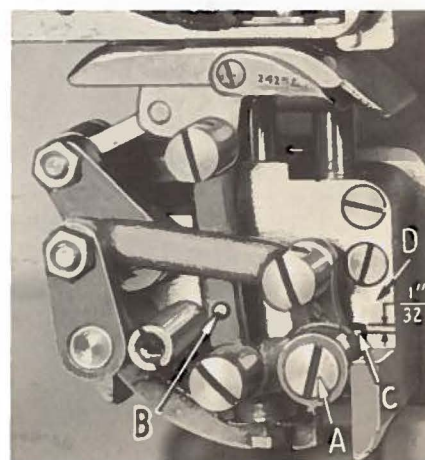

Fig. 10
To make this adjustment, loosen the screw (A, Fig. 10) and, with the right hand, hold the feed plate against the presser foot. Then, by holding feed link (B) with the left hand, push down feed point until there is $\frac{1}{32}$ inch clearance between the block (C) and the plunger bearing block (D). Then, retighten screw (A).
Turn handwheel in operating direction until the feed point reaches its highest position and check to see that the feed point is in the center of the slots in the feed plate. If the feed point is not in proper alignment, loosen screw (A, Fig. 10) and turn the feed plate to align the feed point in the slots. Retighten screw (A).